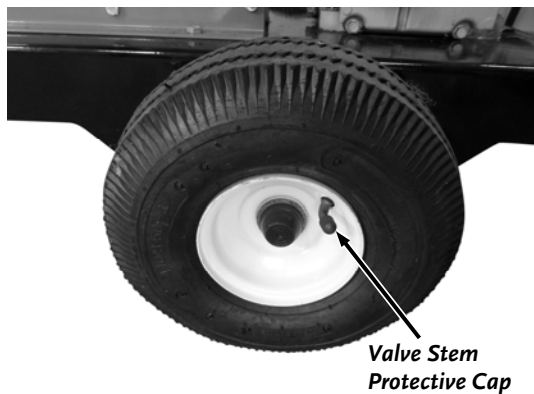

Figure 11
1. Remove the Valve Stem Protective Cap (**Figure 11**) and check the tire pressure with a Tire Pressure Gauge.